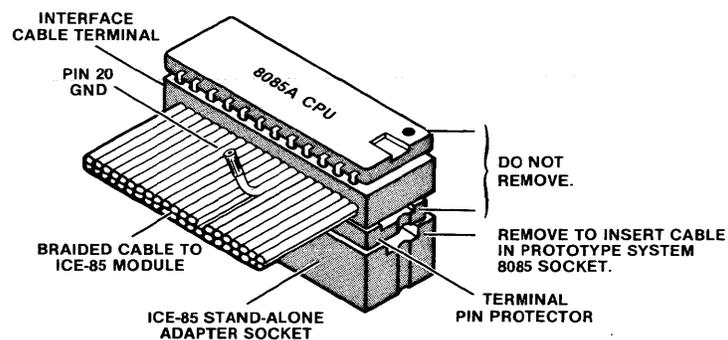

Figure 2-1. ICE-85 Cable Terminal Assembly
- ICE-85 Module and Interface Cable (PN 4001461): A cable assembly containing 8085 logic; the cable terminal is a 40-pin connector with an 8085 CPU chip installed (Figure 2-1). The terminal is inserted in the CPU socket of the user system.
17. Locate the 40-pin terminal at the end of the Interface Cable on the ICE-85 Module (Figure 2-1). The terminal has an 8085 mounted on the top side, and the Stand-alone Adapter Socket mounted on the lower side through a terminal pin protector. If the ICE-85 system is to be used without user prototype hardware, leave the Adapter socket mounted in the terminal.
- Locate the 40-pin terminal at the end of the Interface Cable on the ICE-85 Module (Figure 2-1). The terminal has an 8085A mounted on the top side, and the Stand-alone Adapter Socket mounted on the lower side through a terminal pin protector. If the ICE-85 system is to be used without user prototype hardware, leave the adapter socket mounted in the terminal.